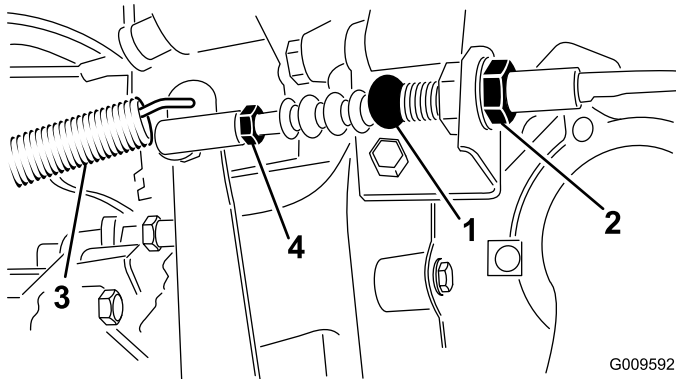

Figure 60
1. Loosen the jam nuts securing the clutch cable to the bracket on the bell housing (Figure 60).